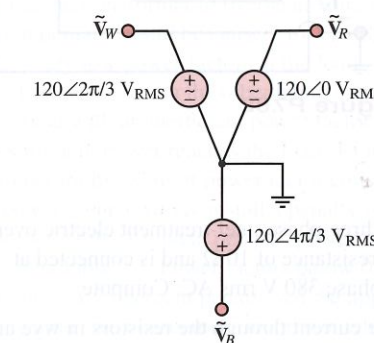

Figure P7.60
7.60 Each voltage source shown in Figure P7.60 has a relative phase difference of $2\pi/3$.